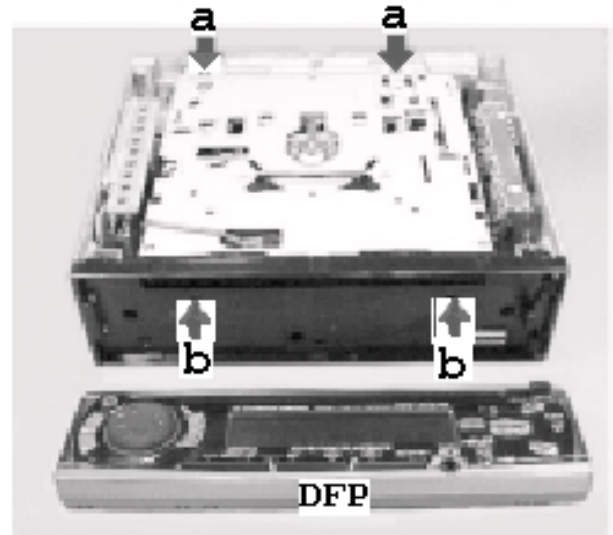

Fig. 1
- 3) Remove the four screws (indicated by arrows) from CD mechanism. (Fig. 1)